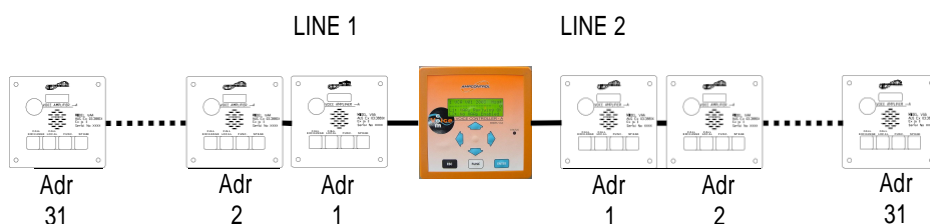

Figure 44 - VAA Addressing on Line 1 & 2
2. Address the VAAs sequentially, as shown in Figure 44. Go to the VAA with the list of serial numbers and follow the VAA address set up procedure. Locate the VAA with the first serial number and set this to address 1.